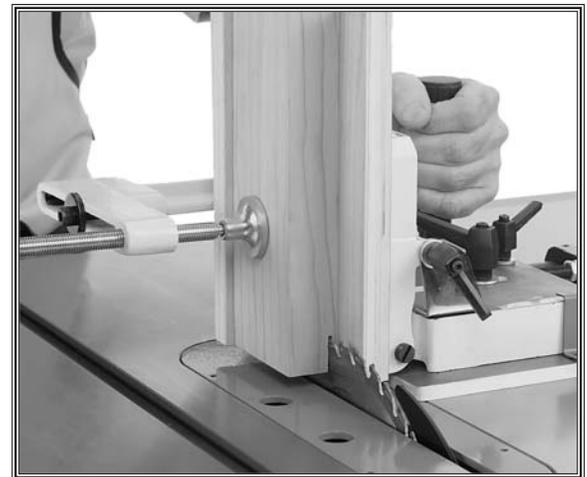

Figure 22. Making the first structural cheek cut.
*Note: Remember to allow for the width of the kerf when aligning the workpiece. Also, keep the cuts close to the side support backing board, as shown in **Figure 22**, to support the waste piece and reduce the risk of it breaking off during the cut.*
6. Firmly grasp **BOTH** handles of the jig, then slowly slide the workpiece through the blade to make the first structural cheek cut, as shown in **Figure 22**.